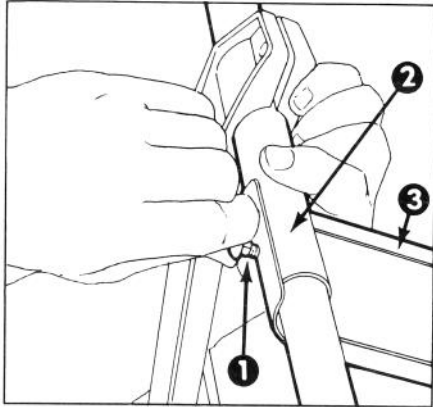

Figure 3
4. Mount escutcheon plate over handle and install carriage bolts with heads of carriage bolts to outside of handles (Fig. 3). Assemble nuts and tighten assembly.